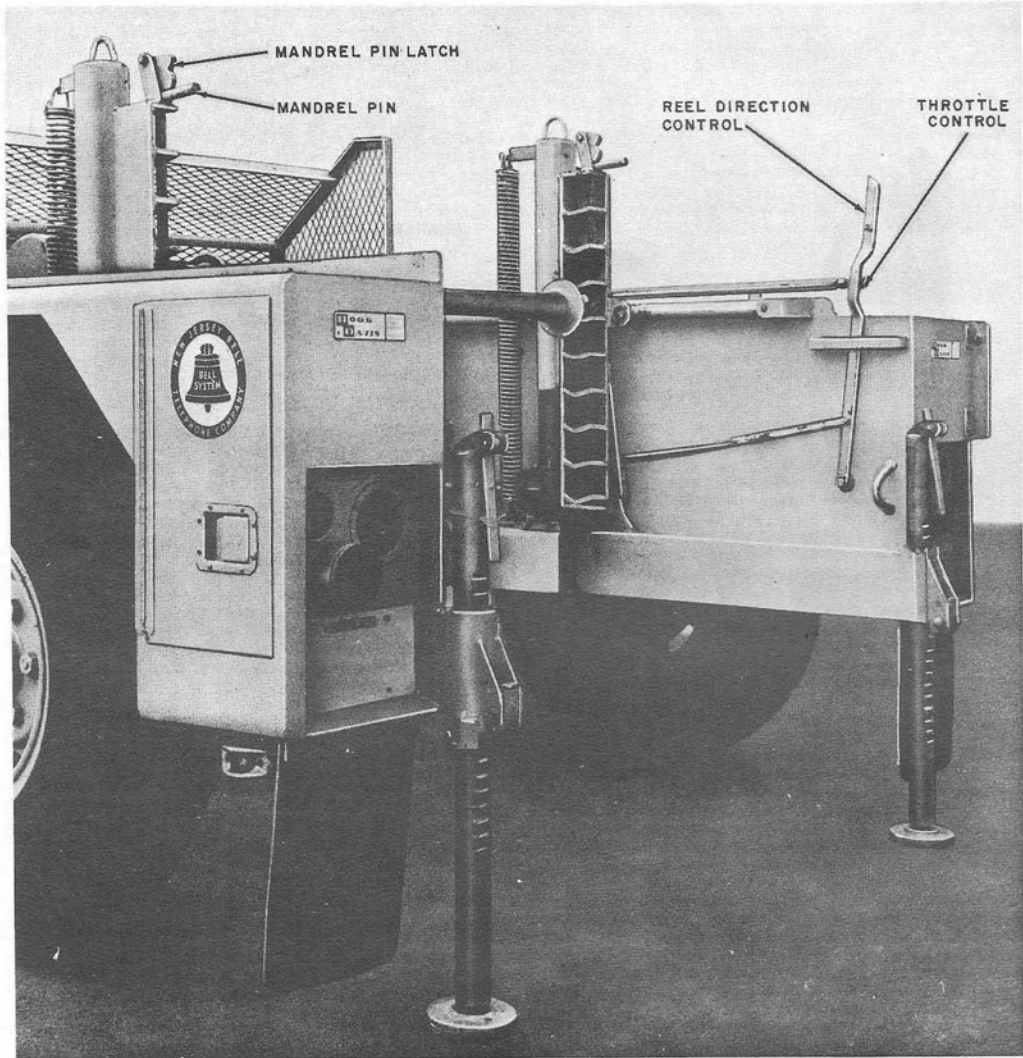

Fig. 5—Controls at Rear of Removal Unit
2.07 Remote controls for reel direction and engine speed are located at the rear of the cable removal unit, as shown in Fig. 5, to allow the